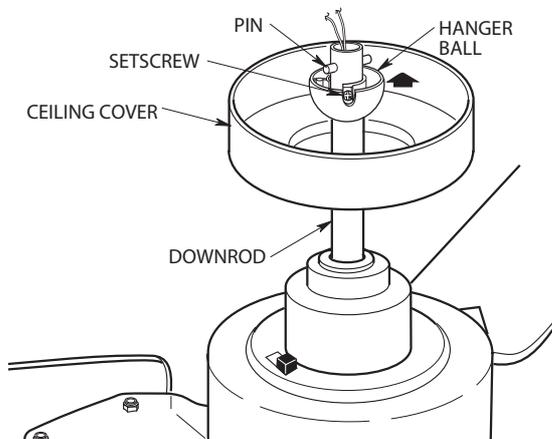

Figure 6
- 9. Reinstall the hanger ball (Figure 6) on the downrod as follows. Route the two motor leads through the hanger ball. Position the pin through the two holes in the downrod and align the hanger ball so the pin is captured in the groove in the top of the hanger ball. Pull the hanger ball up tight against the pin and securely tighten the setscrew in the hanger ball. Loose setscrews could create fan wobble.